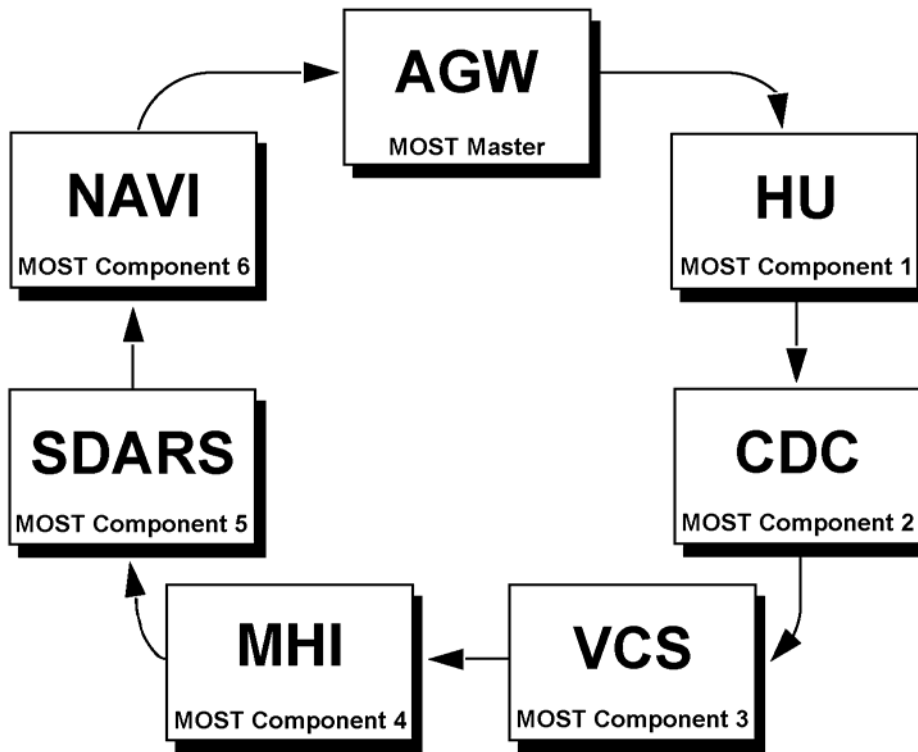

Figure 14
1. In the exposed electronics compartment at the front of the load compartment, find and disassemble the optical fiber couplings and configure the MOST ring according to Figure 14.
2. Set the MOST ring configuration to match Figure 14 via path:
Note: The MOST ring configuration in Figure 14 is an example of a configuration including all possible components. Some installations will not include all the components shown in the example. If a component is not present, connect the preceding component to the component following the one not present.
Match the MOST ring configuration to Figure 14.
Failure to have the configuration match Figure 14 will result in erroneous system operation and/or intermittent malfunctioning of some or all components in the ring.
Do not alter the configuration in Figure 14 to match the vehicle configuration.